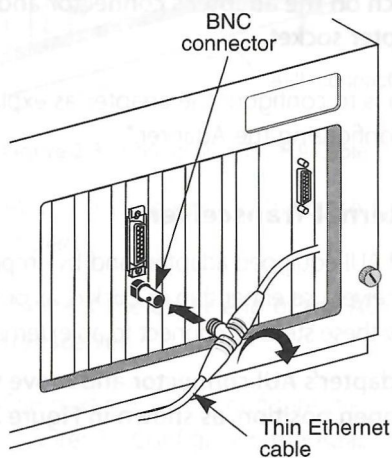

Figure 2-1 Connecting Thin Ethernet Cable
- 1 **Connect the T connector on the thin Ethernet cable to the adapter's BNC connector (see Figure 2-1).**